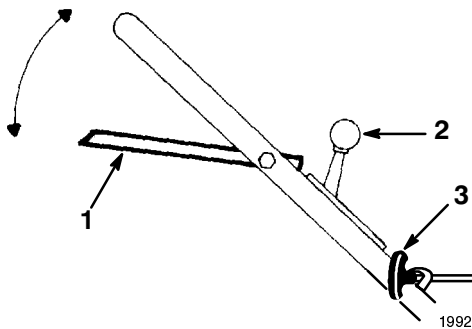
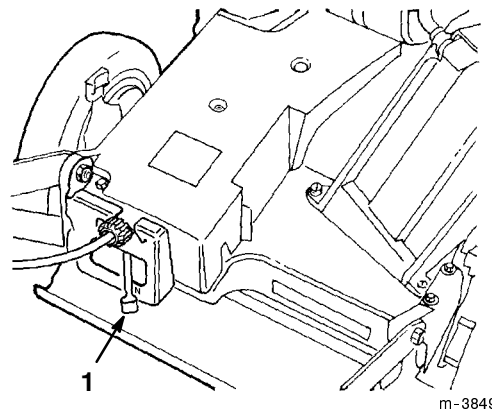

Figure 10
Figure 12
The blade control bail, the throttle control, and the starter handle are on the upper handle as shown in Figure 10.
2. Move the throttle control to the (*Fast*) position (Fig. 10) and the ground speed control to the *Neutral* position (Fig. 12).